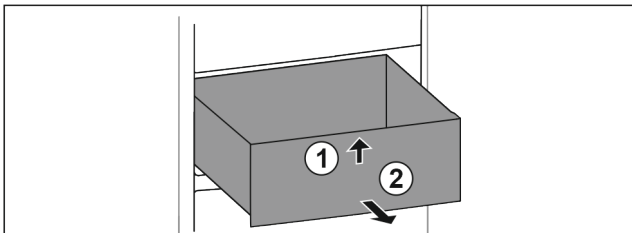

Fig. 75
- ▶ Lift up drawer at the front. Fig. 75 (1)
- ▶ Remove drawer to the front. Fig. 75 (2)